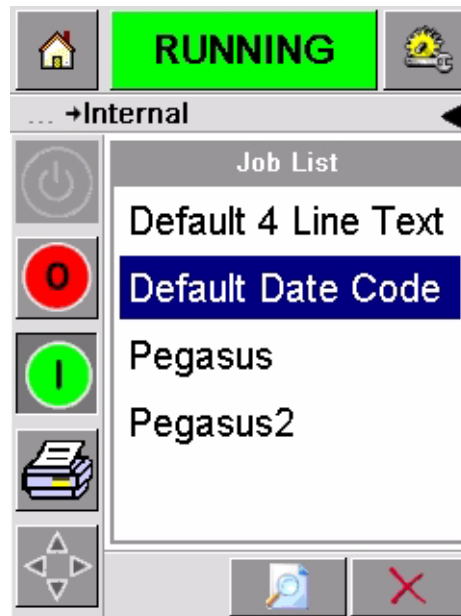

Figure 4-20: Database Data Window
- 2 Touch the Database button on the tools page to open the database page. This page contains a list of all the available print jobs along with details of the space available for the storage of new jobs (Figure 4-20).